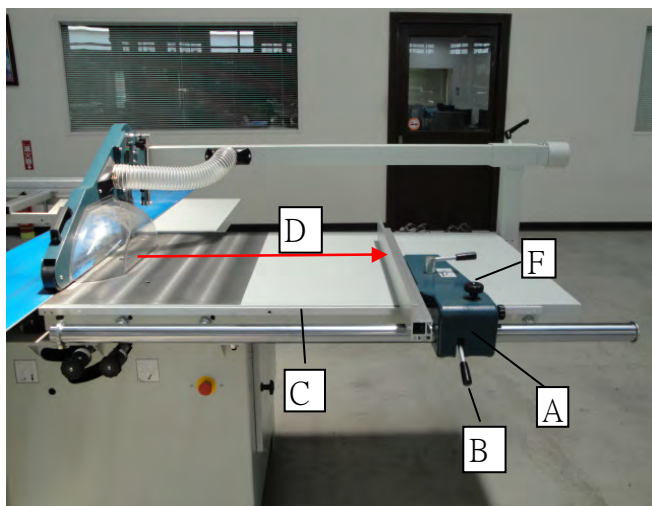

fig 4-6.1
- Unlock the fence for parallel cuts A(fig 4-6.1) by means of knob F(fig 4-6.1) & handle B(fig 4-6.1) and move it in order to read a value between edge C(fig 4-6.1) turned to the blade and millimeter rule
- Measure the distance D(fig 4-6.1) between saw blade and parallel fence
- Loosen ruler screw and move millimeter rule in order to read the same value previously measured on the edge C(fig 4-6.1) of fence.
- Lock the fence unit with handle B(fig 4-6.1) , lower the guard and make a test cut
- Tighten knob F(fig 4-6.1)